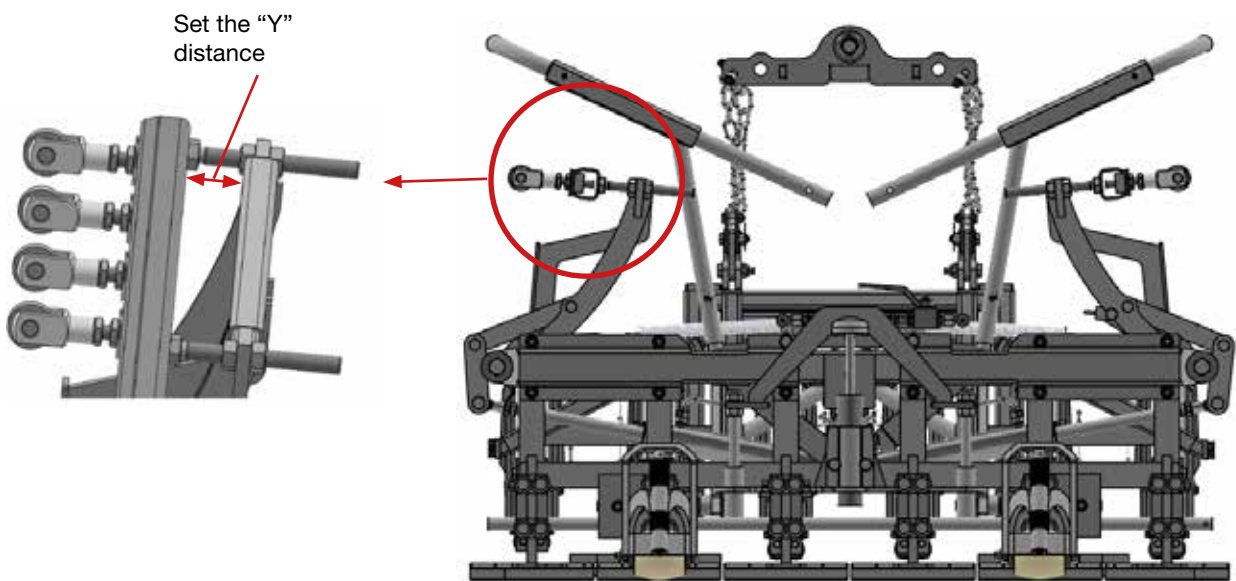

Fig. 34. Adjust the "Y" spacing on the paver-clamp
4. Adjust the adjusting nut on the threaded rod so that the determined dimension "Y" is set (see Fig. 34)